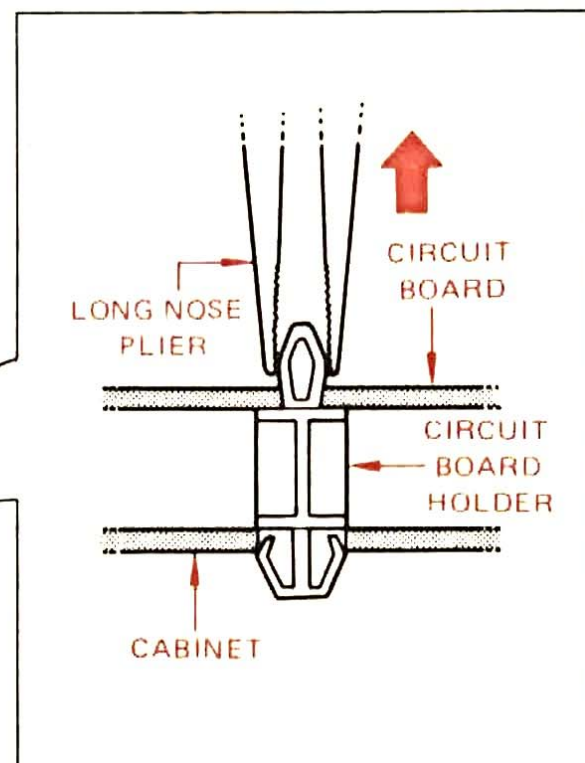

Fig. 4
- b. Put the circuit holders ① to ③ between a long nose plier in Fig. 4 and remove the control circuit board.
- b. Put the circuit holders ① to ③ in photo 5 between a long nose plier in Fig. 4 and remove the power circuit board.